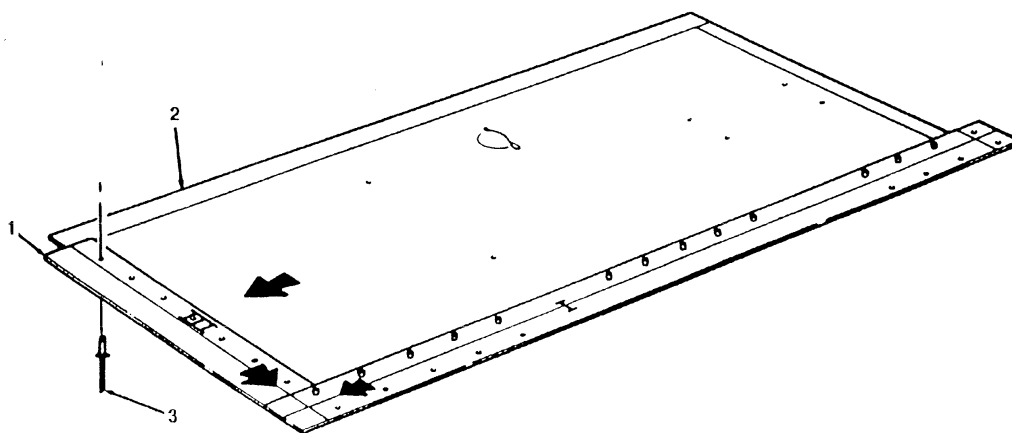

FIGURE 3-44
5. Position metal strip "III" (1) to insert panel (2) and secure with seven NSN 5320-01-271-6357 rivets (3). (see figure 3-44)
6. Remove adhesive residue and clean edges on metal strip "III" (1) and insert panel (2).